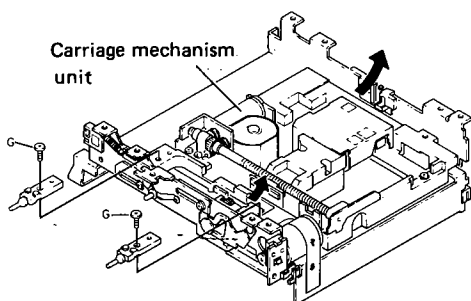

Fig. 23
• **Carriage Mechanism Unit Removal (Fig. 23)**